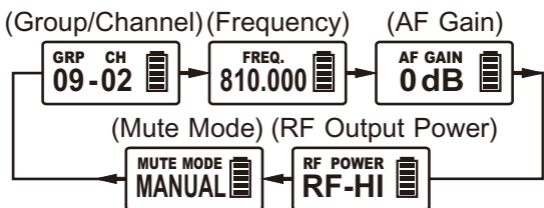

Fig. 5
2. Press MODE button to access one of the 5 parameters below and press SET button to activate parameters for changing, Fig. 5.